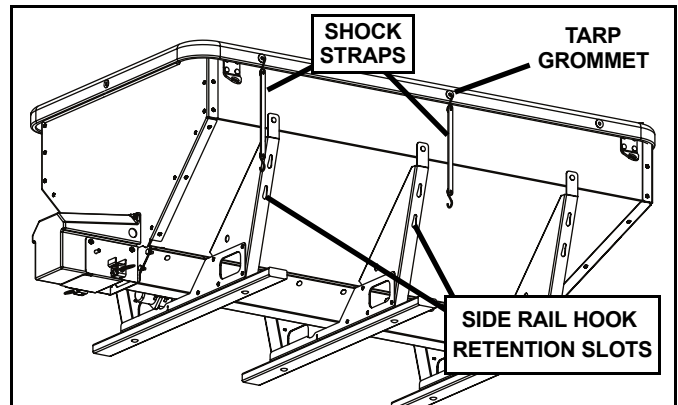

Figure 13
- Install (2) rubber shock straps on both sides of the tarp, connected to the tarp grommets and the frame side rail hook retention slots. (See Figure 13.)